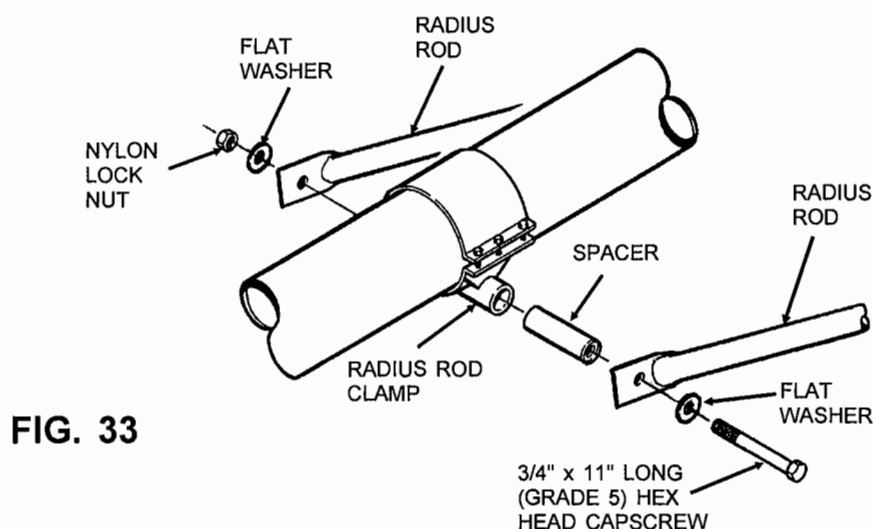

FIG. 33
Step 28. Insert the pivot pipe spacer into the pipe on the radius rod clamp. Then insert a 3/4" x 11" long (grade 5) hex head capscrew through a flat washer, one radius rod, the spacer and then the other radius rod and another flat washer and a nylon locknut. See Fig. 33.